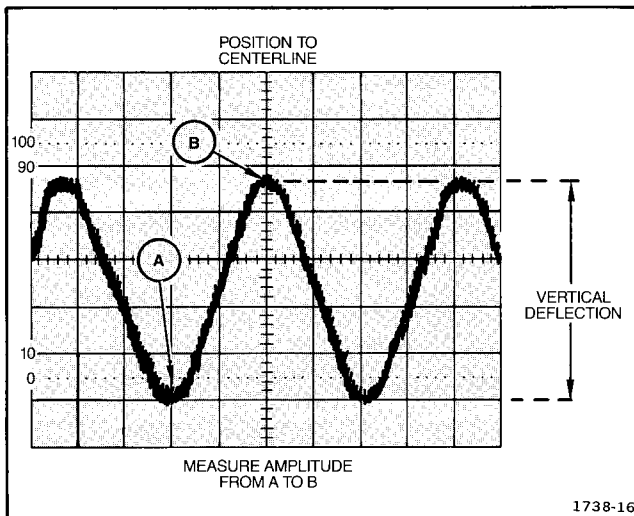

Figure 3-1. Measuring peak-to-peak voltage of a waveform.
5. Vertically position the display so that the negative peak of the waveform coincides with one of the horizontal graticule lines (see Figure 3-1, Point A).
6. Horizontally position the display so that one of the positive peaks coincides with the center vertical graticule line (Figure 3-1, Point B).
7. Measure the divisions of vertical deflection from peak to peak (Figure 3-1, Point A to Point B).
EXAMPLE. In Figure 3-1, the measured peak-to-peak vertical deflection is 4.6 divisions using a 10X attenuator probe with the VOLTS/DIV switch set to 5 V (10X PROBE).